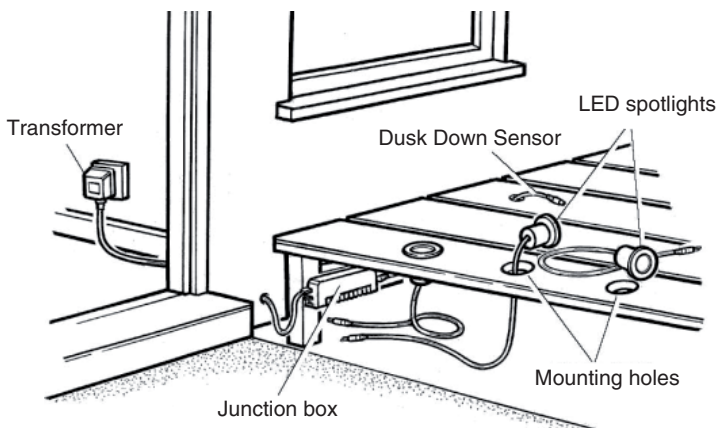

Fig. 1
A common type of installation is shown in Fig.1.
- Feed the spotlight connecting cable through the drilled hole (See Fig. 1).